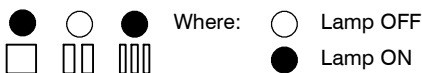

Fig. 8.7
- 12 Press the reset button 6 repeatedly (4 times) until the lamps 9 give the indication as in Fig. 8.7 (gas type mode 1).